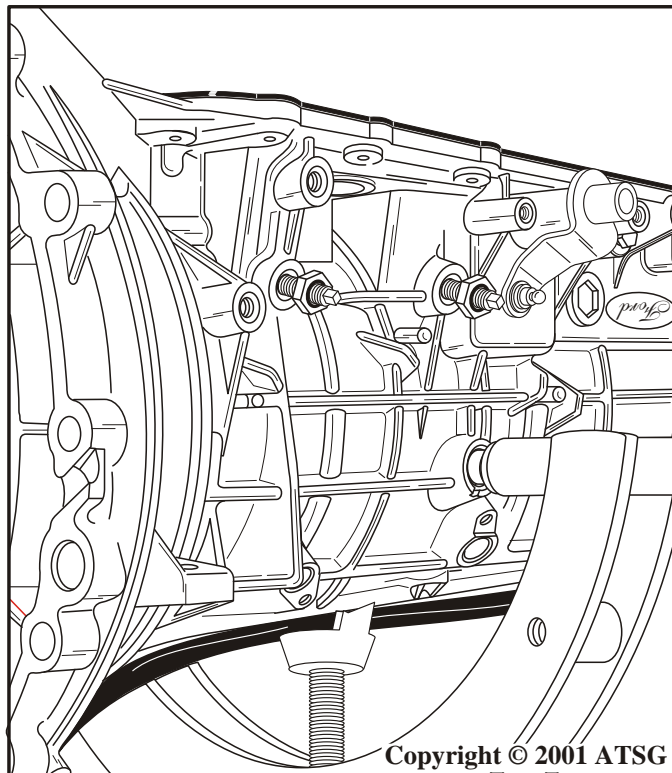

Figure 35
30. Loosen both band adjusting screws, as shown in Figure 35.